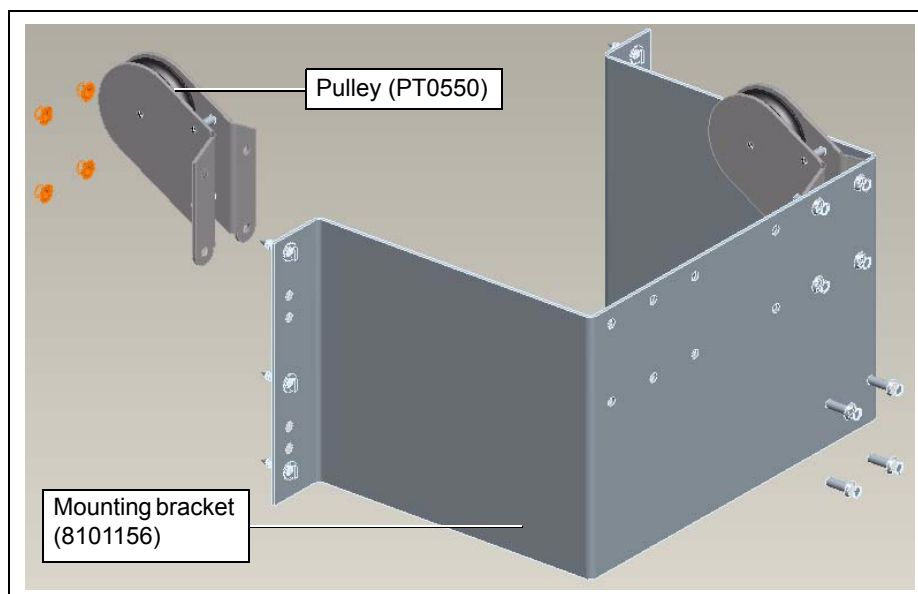

Figure 3
1. Assemble the idler pulleys to the mounting bracket on the inside surface if the cable is going to a discharge gate on the same bin. Assemble them on the outside if the cable is going to an adjacent bin. Attach the idler pulley bracket to the bin wall just under the eave to ensure that the cable will clear the bin roof. *(See Figure 3.)*